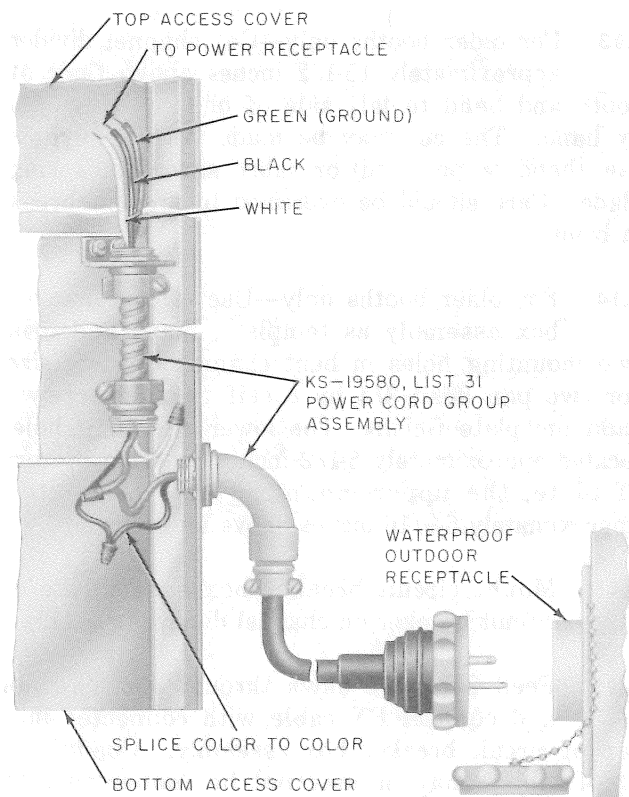

Fig. 17—KS-19580, List 31 Power Cord Group Assembly for Ground Level Entrance
3.10 Refer to 2.13 for available cords and Fig. 17 and 18 for their usage.